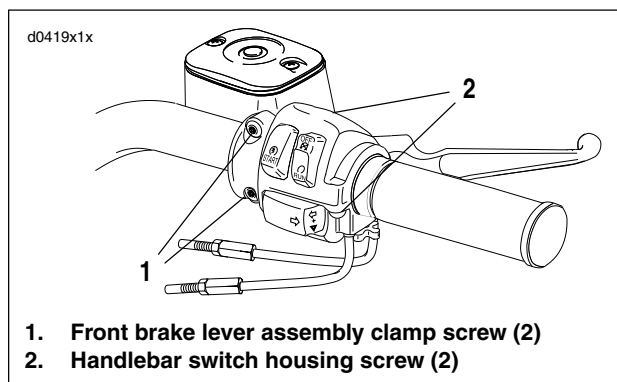

Figure 7-31. Handlebar Lever and Control Mounting Screws (Right Side Shown)
1. See Figure 7-31. Loosen (but do not remove) brake and clutch lever assembly clamp screws (1) and handlebar switch housing screws (2).